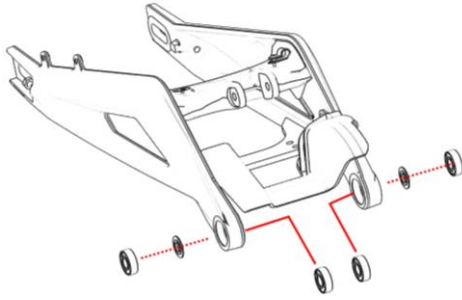

Fig 53
11.24 Disassemble rear fork (see Fig 53)